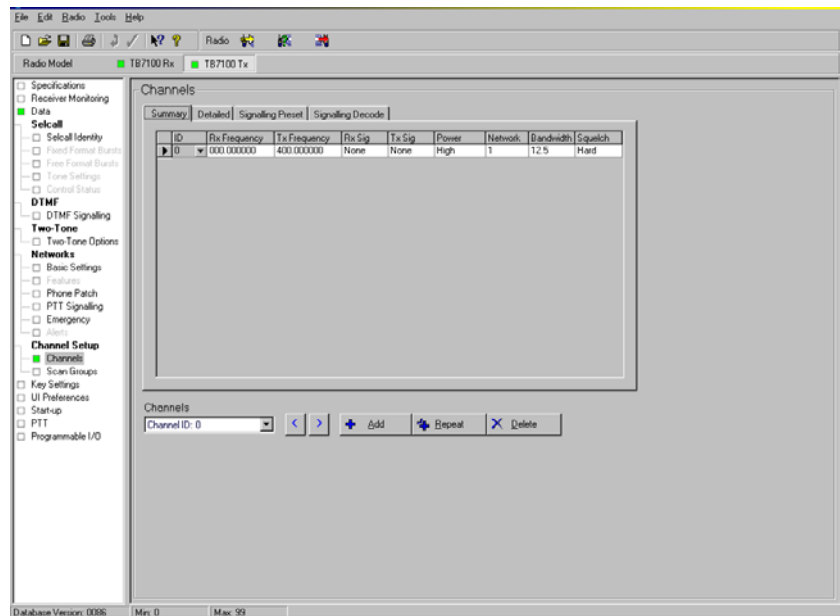

Figure 7
- Enter the TX Channel information required under channel Setup>Channels. No RX channel information is required. An RX frequency is not required but the 'Power' needs to be set for the required level. **Refer to figure 7**.